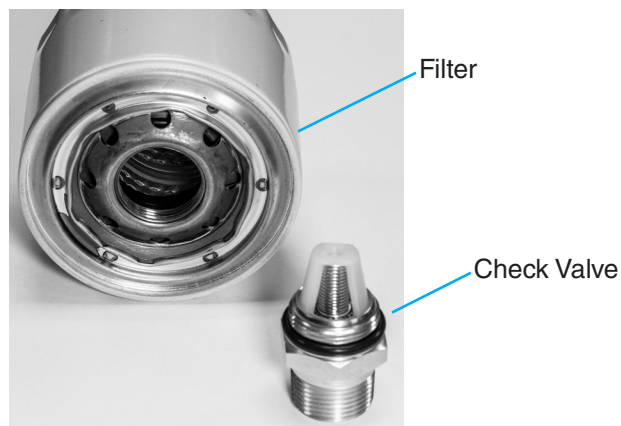

Figure 19 Breather Assembly
5. Remove the check valves. Discard the old filters in accordance with local regulations. See Figure 19.